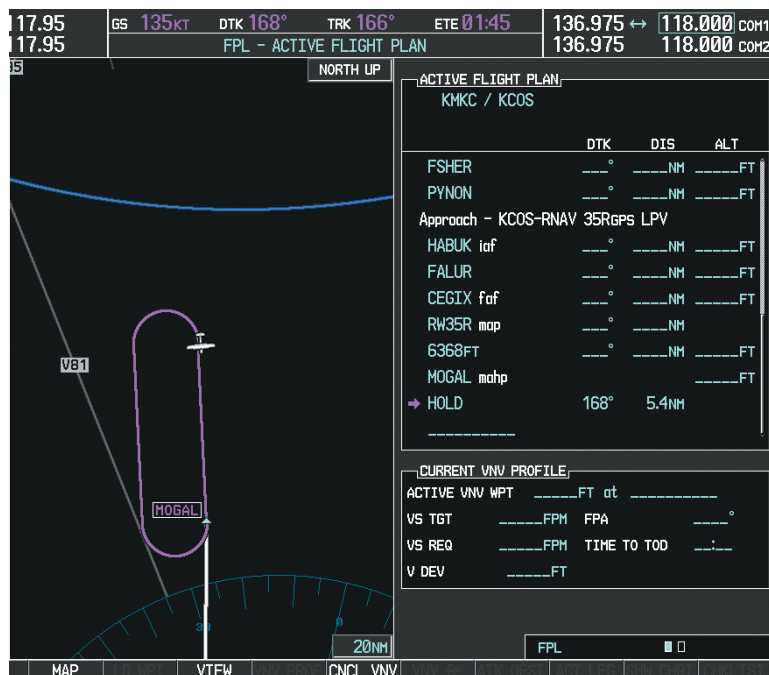

Figure 5-141 Hold Established
- 27) The aircraft maintains 10,000 feet while following the magenta line through the hold as in Figure 5-141.